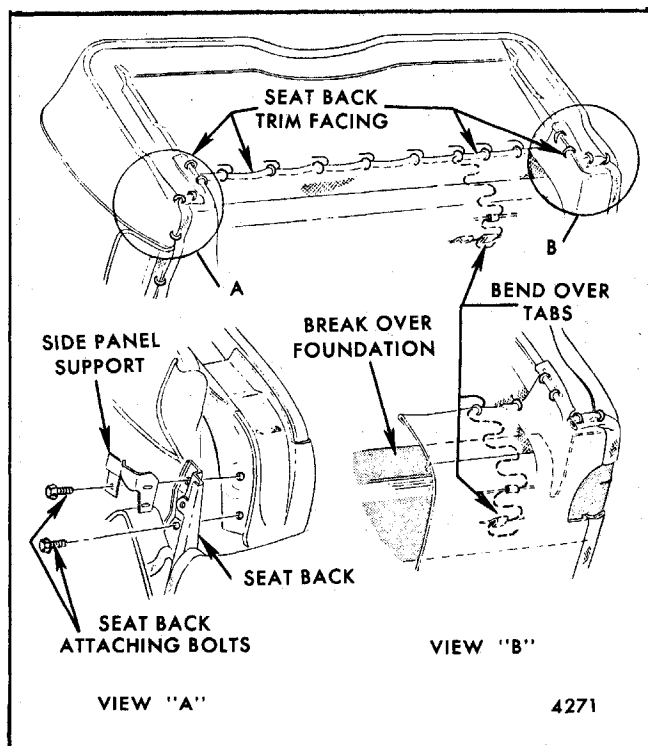

Fig. 9-31-Front Seat Back Attachment - "A and X" Four-Door Styles with Full Width Conventional Seat
Removal and Installation (Refer to Fig. 9-31)
- a. On four-door style with full width seat (no center armrest), raise lower edge of seat back trim, detach breakover foundation, bend out tabs on seat back frame securing seat cushion springs and disengage springs from tabs (see Figure 9-31).
- c. On "A and X" full width seat (no center armrest), remove hog rings securing lower edge of seat back trim to seat bottom frame. Turn up seat back trim side facings sufficiently to expose and remove bolts securing seat back frame to seat cushion frame; then disengage and remove seat back from seat cushion (see Fig. 9-31).